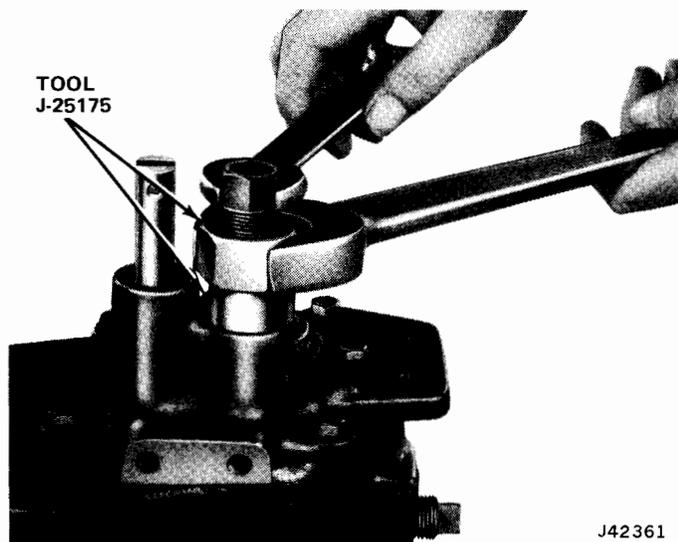

Fig. 8-6 Shift Rod Oil Seal Removal
- (1) Disconnect transfer case shift rod control links.
- (2) Install Puller Tool J-25175 and remove seal (fig. 8-6).